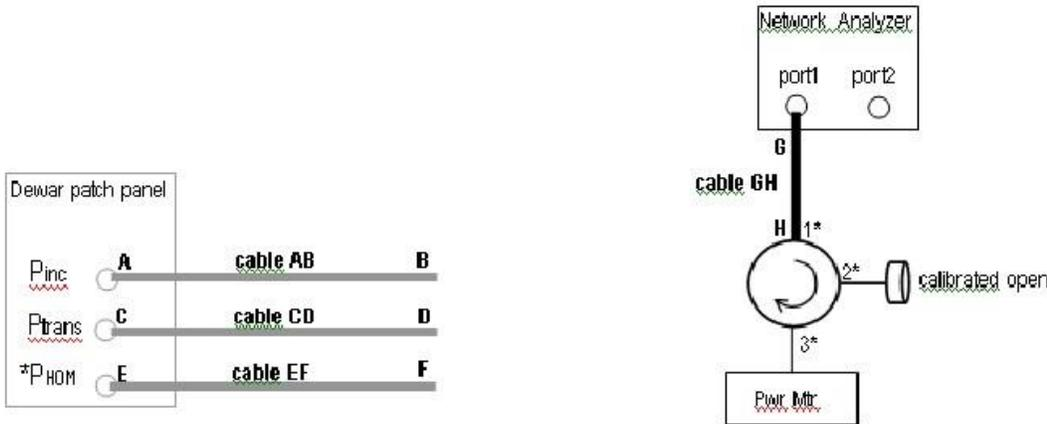

Figure A7. Cable GH, calibrated open and power meter connected to circulator for ‘Transmitted Cable Return Loss’ open measurement.
- A. At dewar, connect circulator ports 1, 2, and 3 as shown in figure A7:
- C. Connect port 2 of circulator to top plate field probe (FP) connector.